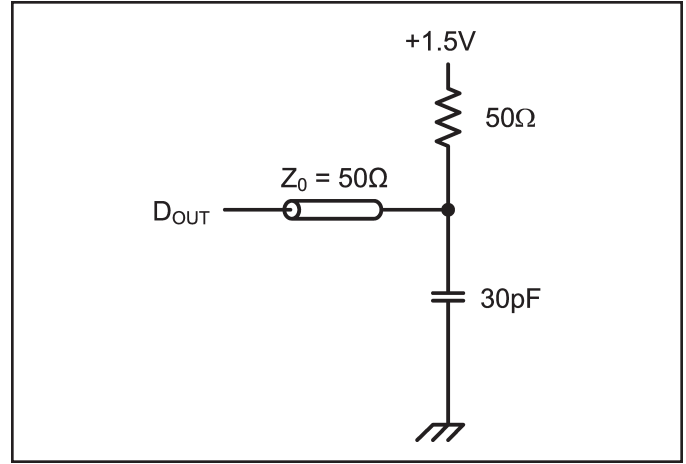

Figure 1. AC Output Load
- Transition is measured  $\pm 200$  mV from steady state voltage prior to change, with loading as specified in Figure 1. This parameter is sampled and not 100% tested.
Output Load	See Figures 1, 2, 3